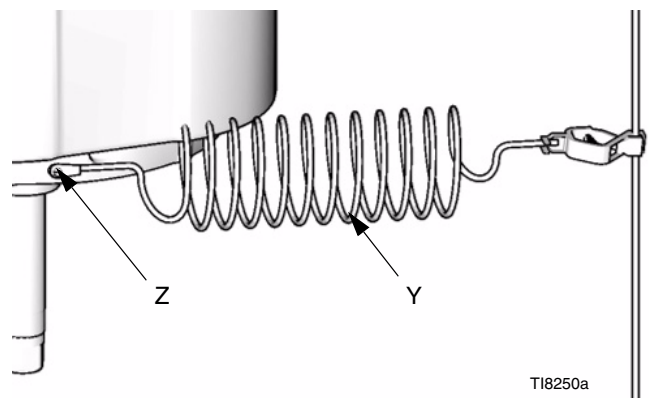

FIG. 1
**Pump:** Use the ground screw (Z) and lockwasher on the motor to attach ground wire 244524 (Y). Tighten the screw securely. Connect the other end of the ground wire to a true earth ground. See FIG. 1.